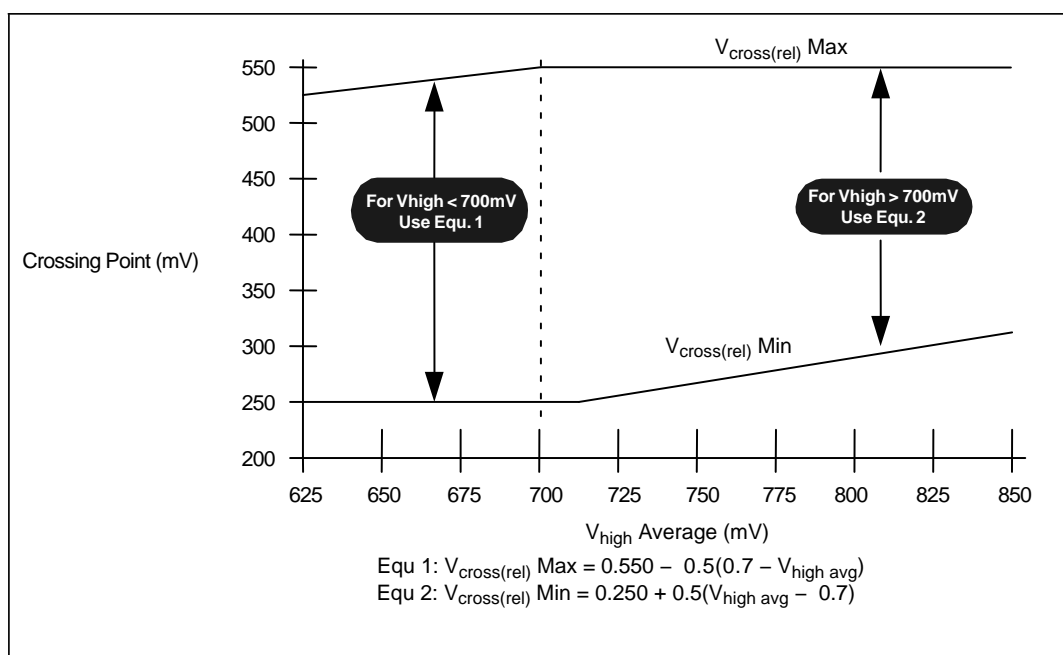

Figure 16. V_{cross} Range Clarification (Note 40)
16. Vcross(rel) Min and Max are derived using the following, Vcross(rel) Min = $0.250 + 0.5 (V_{\text{high avg}} - 0.700)$. Vcross(rel) Max = $0.550 - 0.5 (0.700 - V_{\text{high avg}})$, (see Figure 16 for further clarification).